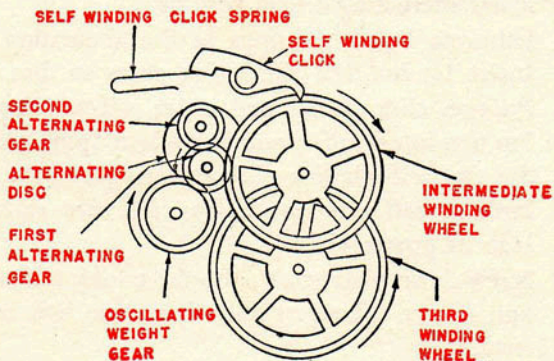

FIG. 25
4. Remove intermediate winding wheel, 3rd winding wheel, self-winding click and spring, alternating disc, 1st and 2nd alternating gears. See Fig. 25.